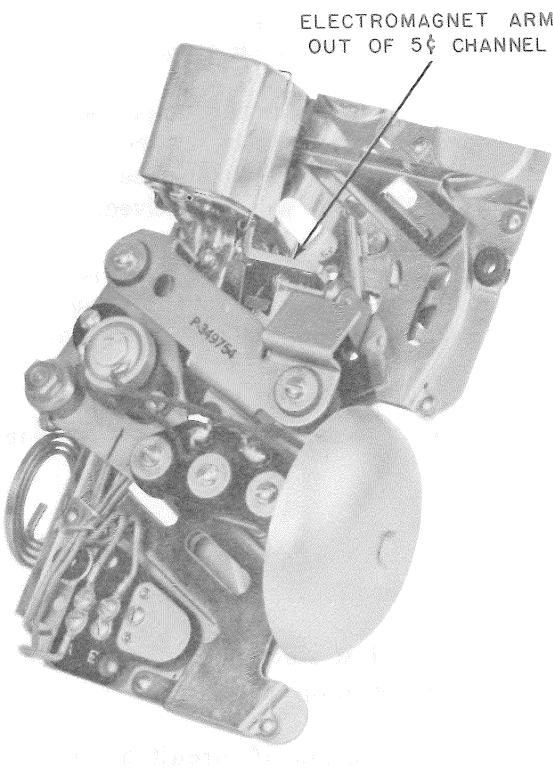

Fig. 64—Dial Postpay Gong Signal and Chute Assembly
- 6.140** Position electromagnet arm so that end is out of 5-cent channel (see Fig. 64). Insert 529A tool in top of coin hopper to retain test coins.